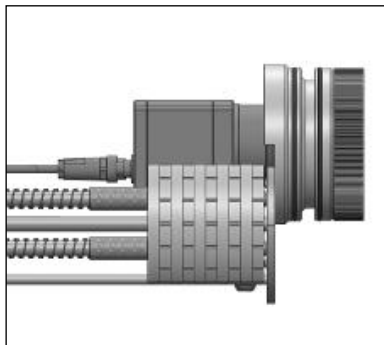
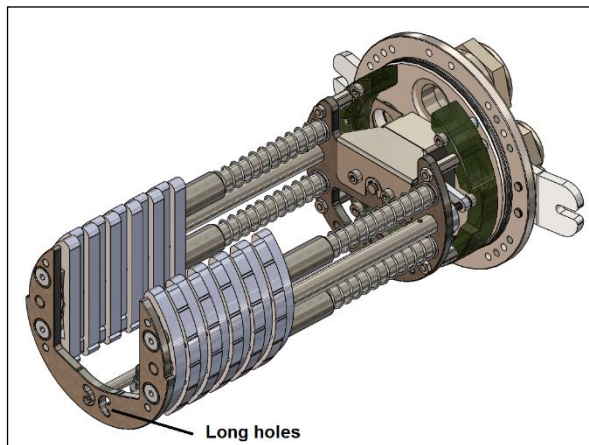
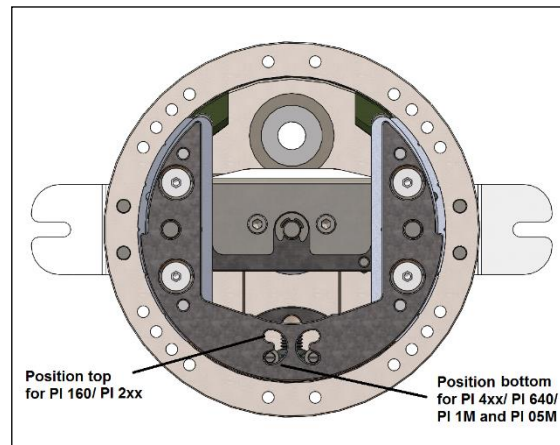
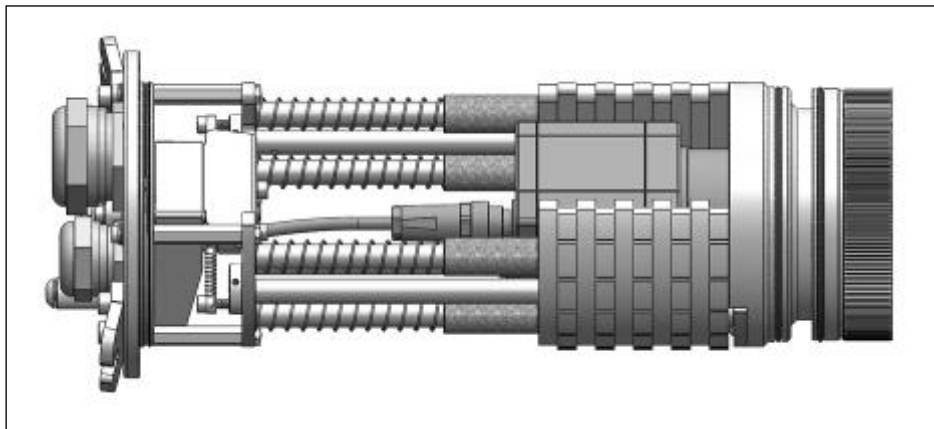

Figure 28: Inserting of the focusing unit
Figure 29: Long holes on the bottom of the chassis
Figure 30: Positioning the two bars in the slot for different cameras
Figure 31: Focusing unit with camera
2. Seat the focusing unit or front part in the chassis (**Figure 28**). Pay attention to the correct positioning of the two bars at the bottom of the chassis. These must be moved in the slot for the respective camera used (**Figure 29, Figure 30**). Position it as shown in **Figure 31**, by pushing it to the bottom.